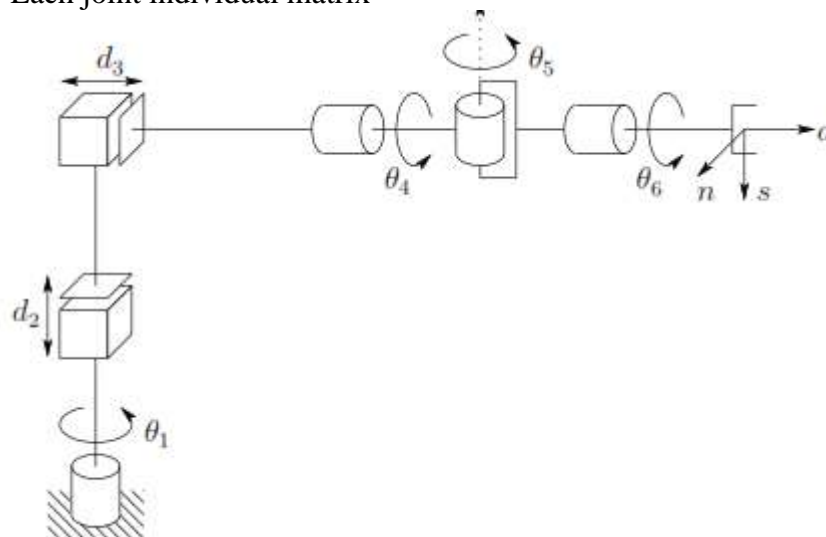

Figure 1. Cylindrical robot with spherical wrist manipulator
- (c) Consider Schematic of a Cylindrical robot with spherical wrist manipulator with a base frame and end-effector frame shown in figure 1. Using D-H notation Construct
- (1) Rotation of  $90^\circ$  about the y-axis,
- (2) Followed by a rotation of  $90^\circ$  about the x-axis,
- (3) Followed by a rotation of  $90^\circ$  about the z-axis
- (4) Followed by a translation of  $[4, -3, 7]$
- (c) Consider the reverse transformation of a two joint manipulator shown in fig.1. **07**